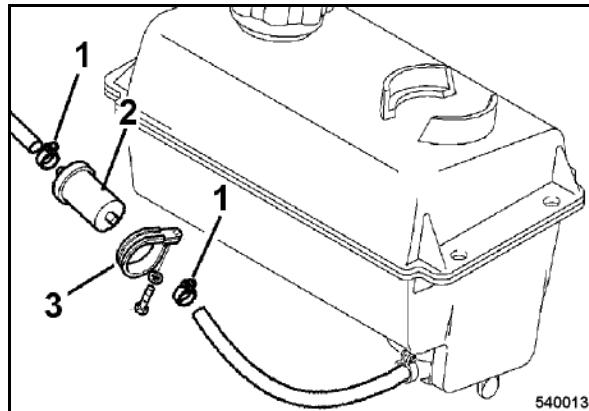

Fig.52 □
- Loosen hose clamp (1) (Fig. 52) and pull the fuel hoses off the fuel filter.
- Loosen the clamping screws (3) and take off the fuel filter (2).